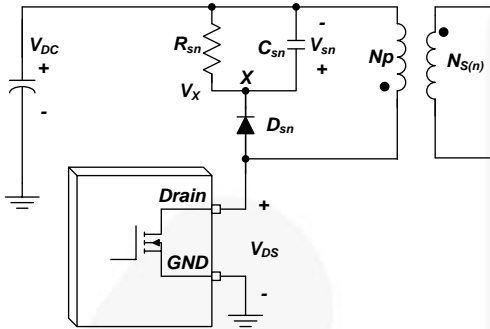
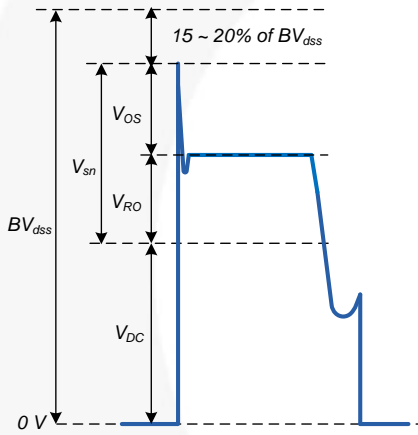

Figure 29. Primary-Side RCD Snubber Circuit
Figure 30. MOSFET Drain Voltage Waveforms
The RCD snubber circuit and MOSFET drain voltage waveform are shown in Figure 29 and Figure 30, respectively. The RCD snubber network absorbs the current in the leakage inductance by turning on the snubber diode ( $D_{sn}$ ) once the MOSFET drain voltage exceeds the voltage of node X as depicted in Figure 29. In the analysis of snubber network, it is assumed that the snubber capacitor is large enough that its voltage does not change significantly during one switching cycle.
increases, the  $V_{sn}$  also increases. The  $R_{sn}$  recommended value is between 200 k $\Omega$  and 47 k $\Omega$ . Check if  $V_{ds}^{max}$  is below 800 V (80% of rated voltage of the SenseFET) as shown Figure 30. Choose 2.2 nF and 150 k $\Omega$  for  $C_{sn}$  and  $R_{sn}$  in this application note.
- $3$  should be a point-discharger route to bypass the static electricity energy. As shown in Figure 30, it is suggested to map out this discharge route.